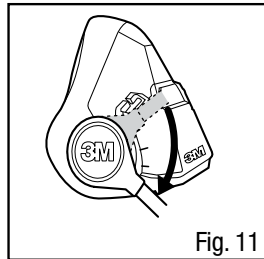

Fig. 11
2. Twist each branch of breathing tube clockwise a quarter turn until it is firmly seated in the bayonet and cannot be turned further (Figs. 11 and 12). Do not forcibly overturn as the bayonet could be damaged. SA-1500/SA-2500 shown.